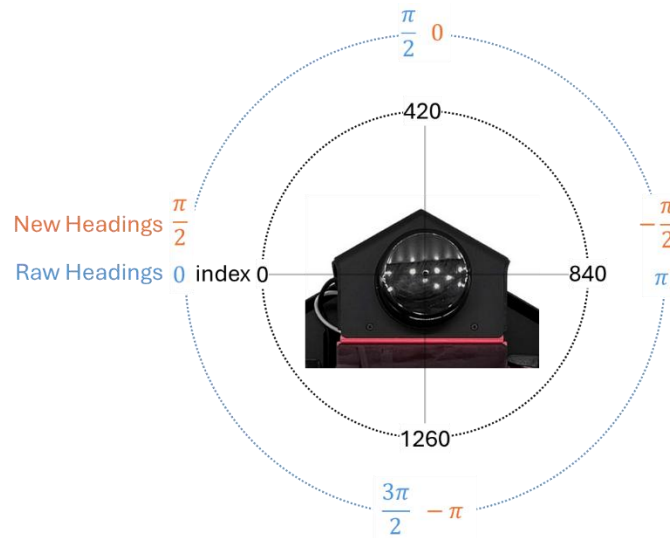

Figure 3. LiDAR measurement correction
- Notice that the raw headings signal is connected to a **Gain** block with a value of -1 and a **Bias** block with a value of $\pi/2$. This is to correct the headings such that the angle value of 0 corresponds to the front of the QBot, as shown in Figure 3. In addition, the angles are now increasing counterclockwise, consistent with the positive convention of our reference frame.